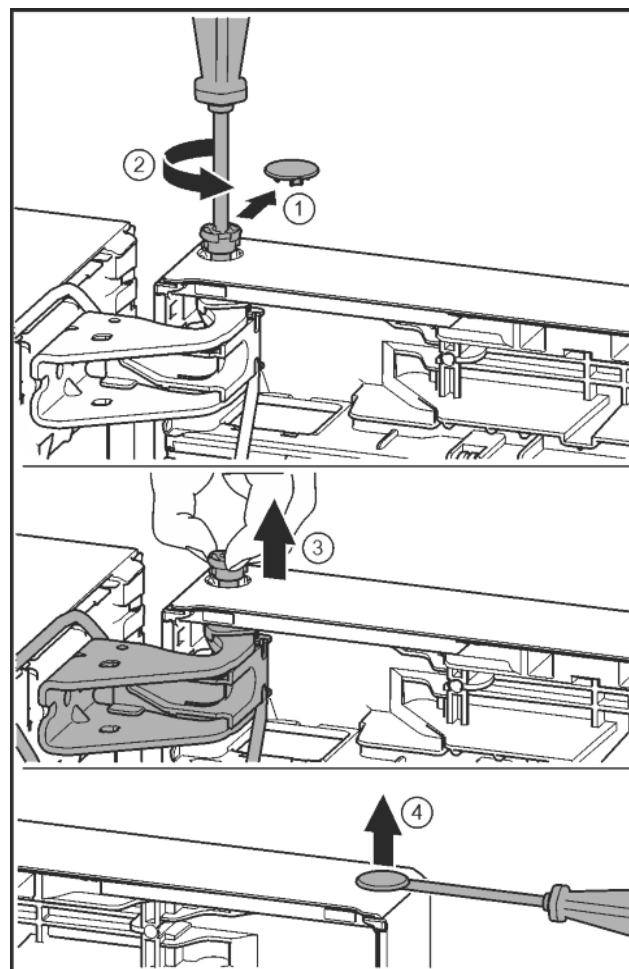

Fig. 20
- Carefully remove the protective cover. *Fig. 20 (1)*
- Undo the bolt a little with a T15 screwdriver. *Fig. 20 (2)*
- Hold the door and remove the bolts with your fingers. *Fig. 20 (3)*
- Carefully lift the plugs out of the door bearing bush with a slotted screwdriver and remove. *Fig. 20 (4)*